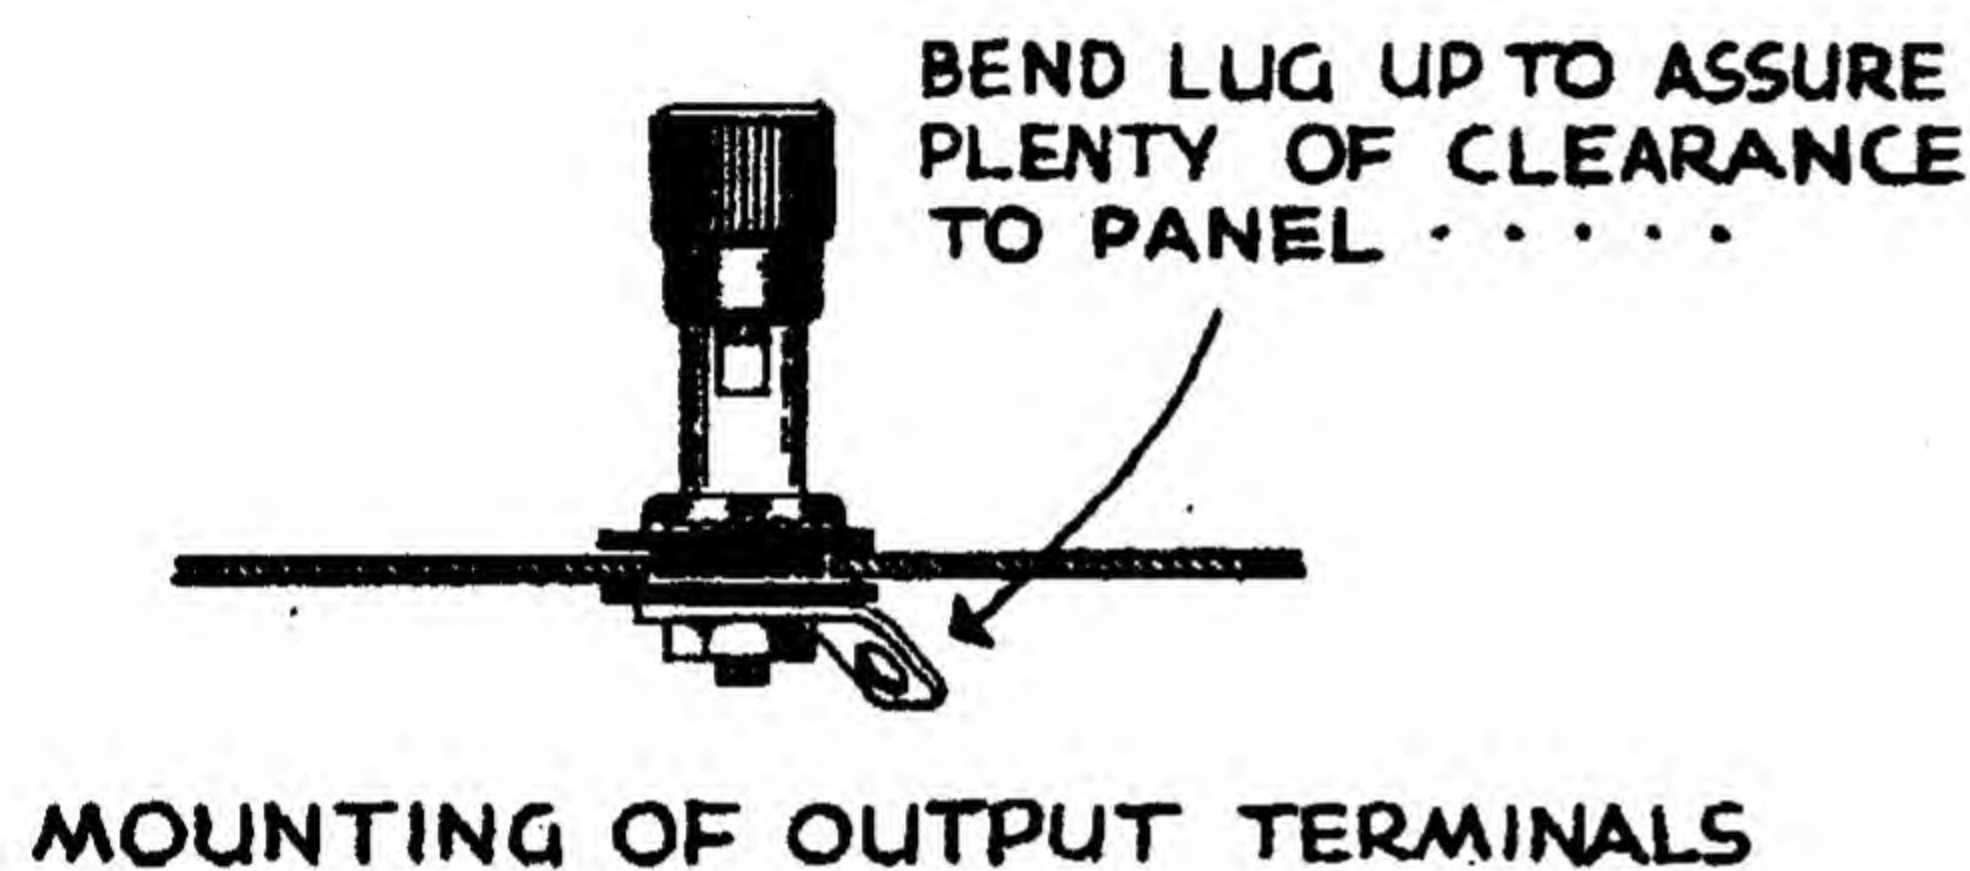

Figure 4
- () Mount the off-on switch in location E using two 6-32 screws, lockwashers and nuts. Mount the switch with the lugs in the same relative position as shown in Figure 4, otherwise the switch action will be inverted.